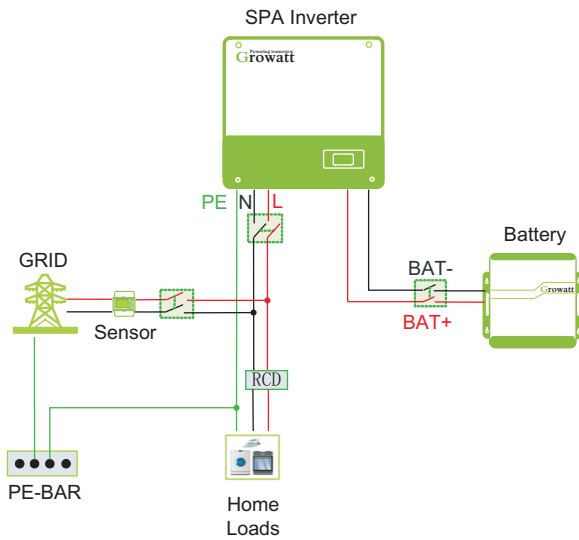

Fig 5.16
- If you want to use on grid only, please refer to Fig 5.16 to connect with AC grid and float EPS output.